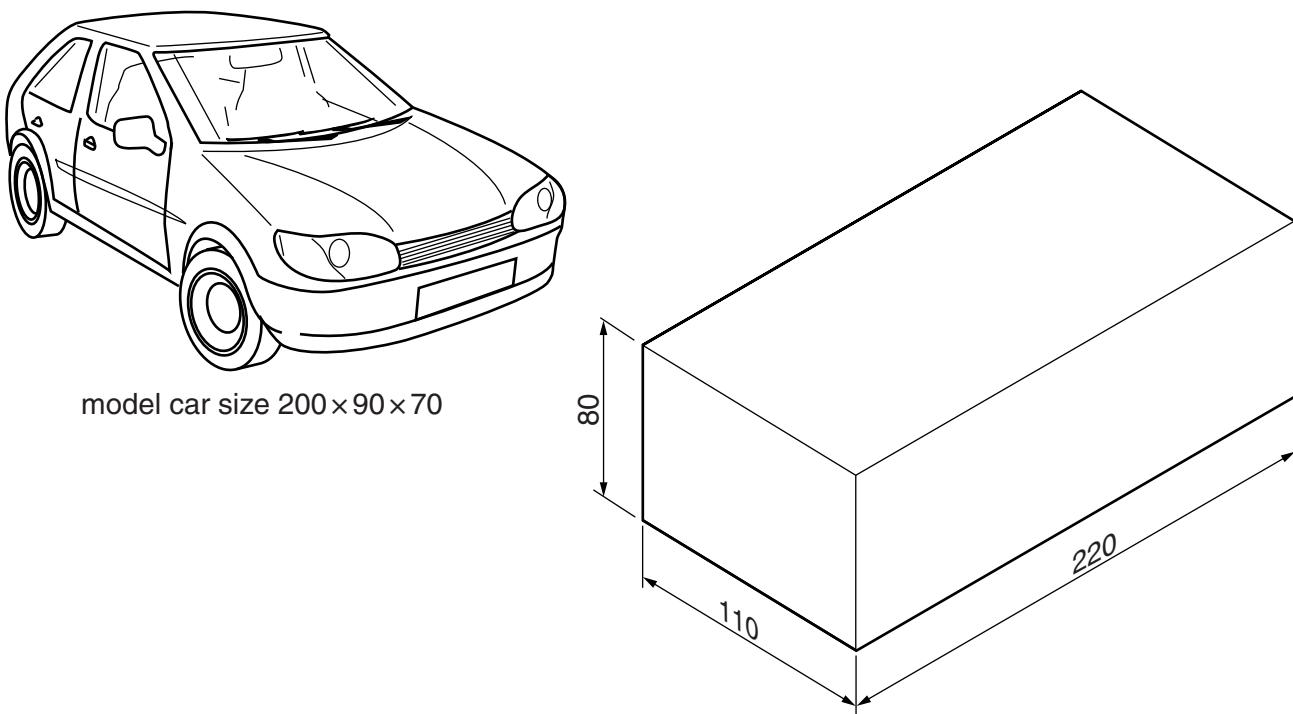

Fig. 7
- 7** Fig. 7 shows a model car and an incomplete idea for the card box in which it will be packaged.